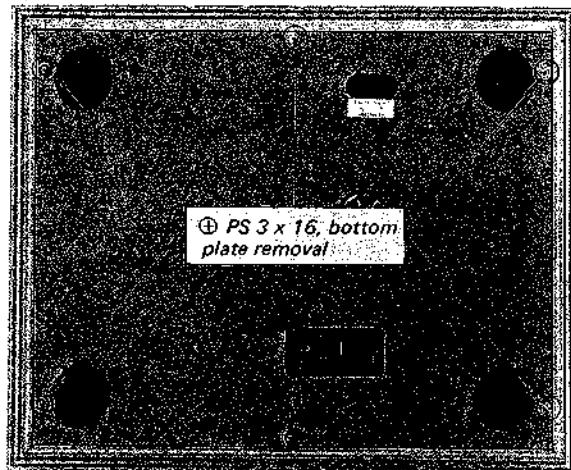

Fig. 2-2. Bottom plate removal
1. Flip the wooden case upside down. Place it on a soft protective pad, and then remove the six screws (\oplus PS 3 x 16) securing the bottom plate to the wooden case as shown in Fig. 2-2. This frees the bottom plate.